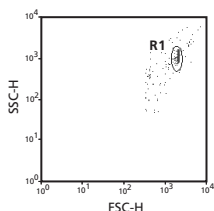

Figure 4a
Note: Pause and restart acquisition frequently during the instrument setup procedure in order to reset detected values after settings adjustments. Adjust gate R1 so that the singlet bead population is located in gate R1 (*Figure 4a*).
Adjust gate R1 so that the singlet bead population is located in gate R1 (*Figure 4a*).
6. In setup mode, run tube No. 1 and using the FSC vs. SSC dot plot, place the R1 region gate around the singlet bead population (see *Figure 4a*).